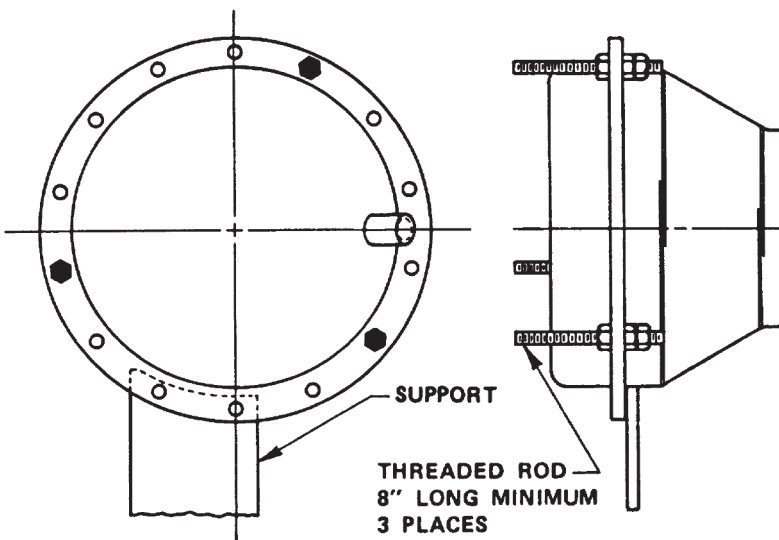

Figure 1: Vibration Support & Disassembly Studs
**NOTE: FOR HIGH VIBRATION APPLICATIONS, IT IS IMPORTANT TO SUPPORT THE DIAPHRAGM END OF THE ACTUATOR BY THE PIPELINE TO PREVENT ACTUATOR DAMAGE. FIGURE 1 SHOWS THE RECOMMENDED METHOD OF ATTACHING THE SUPPORT TO THE ACTUATOR.**